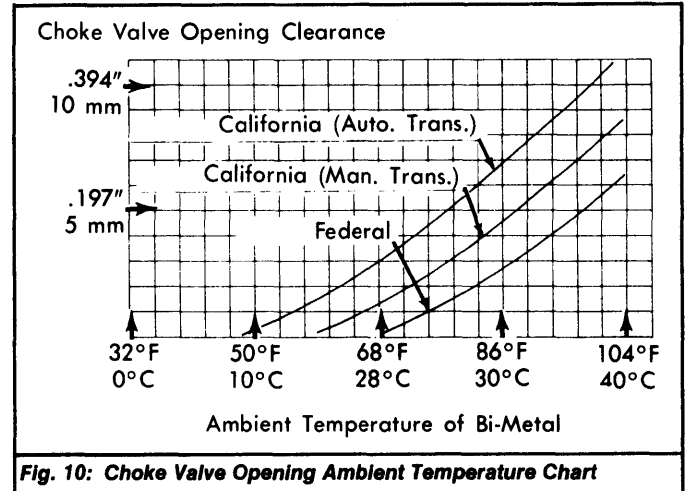

Fig. 10: Choke Valve Opening Ambient Temperature Chart
- 2) Measure temperature around choke bimetallic cover and compare clearance with chart. See Fig. 10. If not to specifications, adjust by turning adjusting nut on end of vacuum diaphragm shaft.